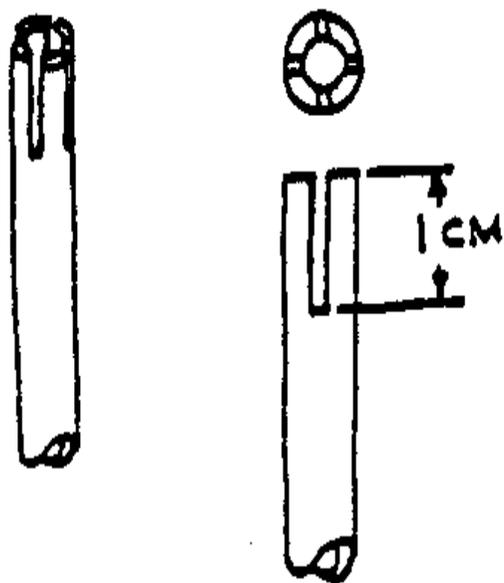

Figure 5. Cut Drainpipe
6. Using a metal saw, cut the copper drainpipe as shown in Figure 5. The drainpipe should